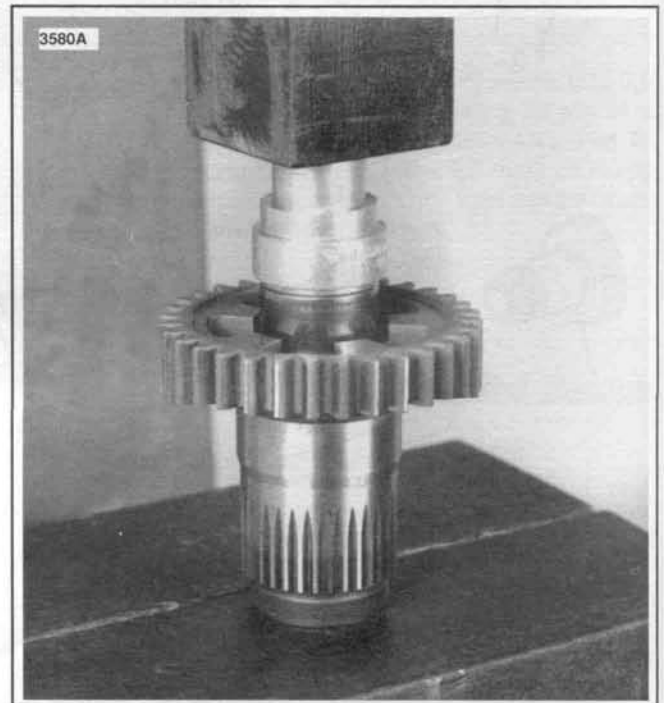

Figure 7-30. Install Transmission Side Needle Bearing in Main Drive Gear
11. See Figure 7-30. Turn over the main drive gear in the arbor press. With the tool HD-37842A, at the 0.090 in. step, press in inner bearing.